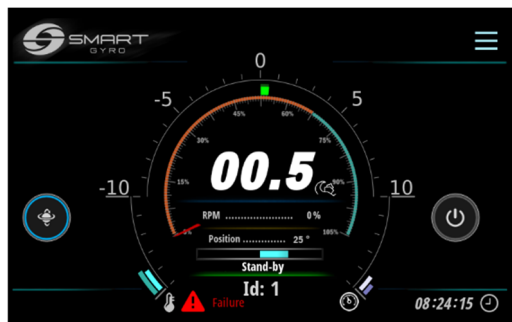

Figure 3
- If an anomaly is detected, it is signaled by the presence of a red icon on the bottom left corner (see **Figure 3**)